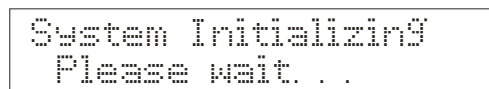

Figure 8
4. The display flashes *System Initializing, Please wait...* See **Figure 8**.